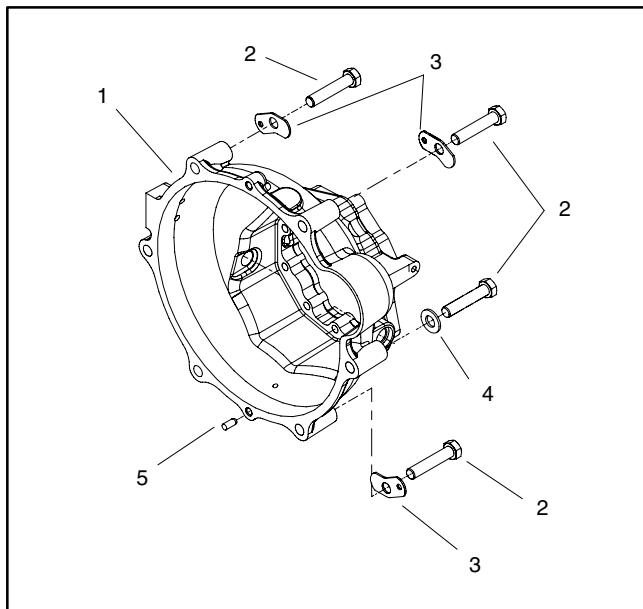

Figure 14
16. Remove six (6) cap screws that secure clutch bell housing to engine. Note location of three (3) flat washers and three (3) harness brackets as caps screws are being removed (Fig. 14).
18. Note location and retrieve two (2) dowel pins from bell housing (Fig. 14).